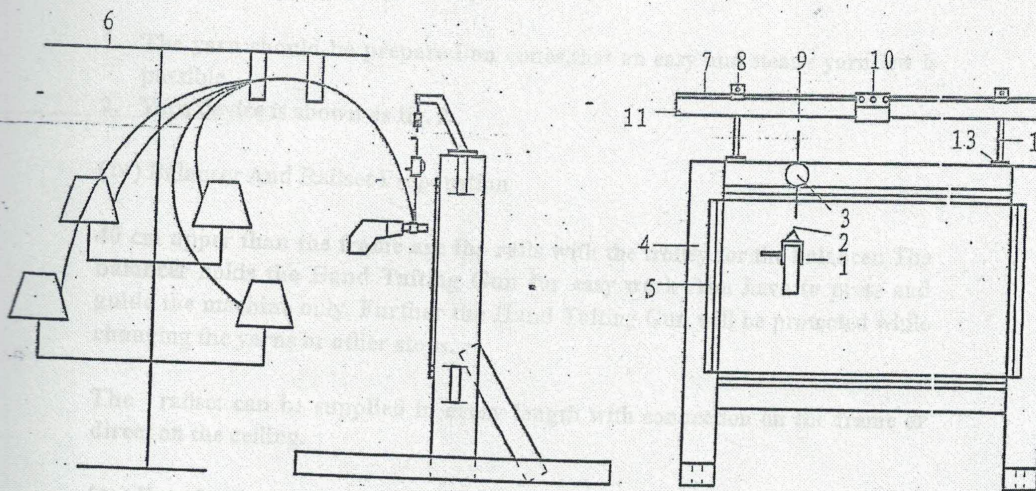
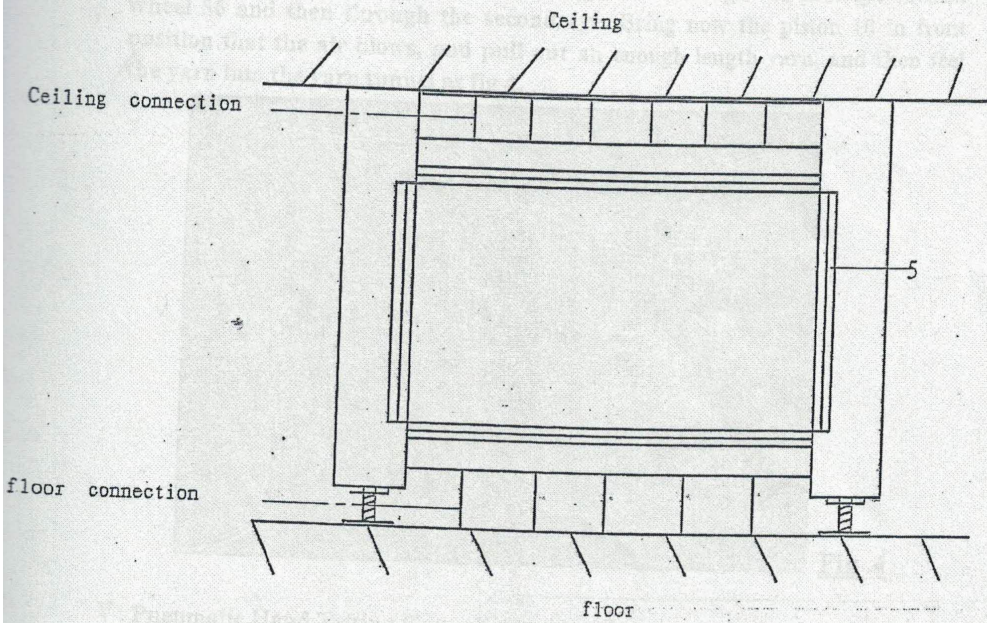

Fig 2
Fig 3
(ii) The Construction of The Simple Frame (as Fig.2 & Fig.3)
2. Yarn device is shown as fig. 2